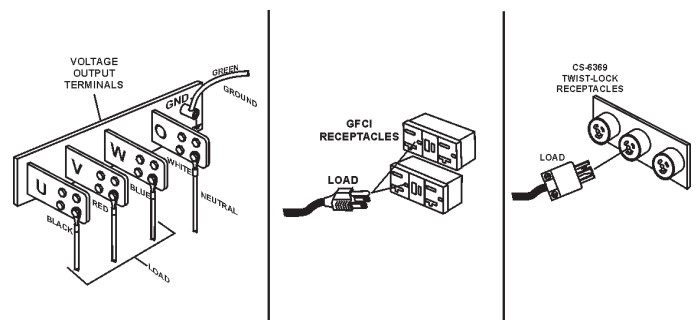

Figure 43. Load Connections
4. Connect the load to the **UVWO** terminals or **auxiliary receptacles** as shown in Figure 43. These load connection points can be found on the output terminal panel. To gain access to the UVWO terminals or other power receptacles, unlock the access cover and lift the door.